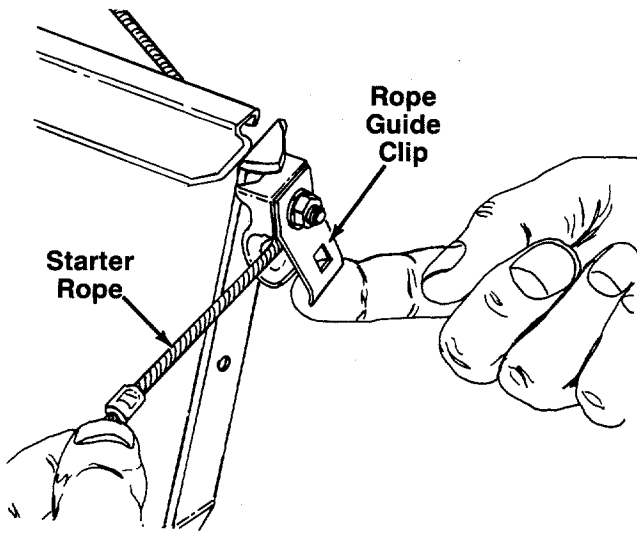

FIGURE 10.
17. **Top Discharge Models Only (Model 112):** Slip the starter rope under the rope guide clip. As shown in figure 10.